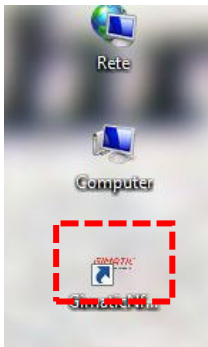

Figure 21
- Start the software PC application (Figure 21)